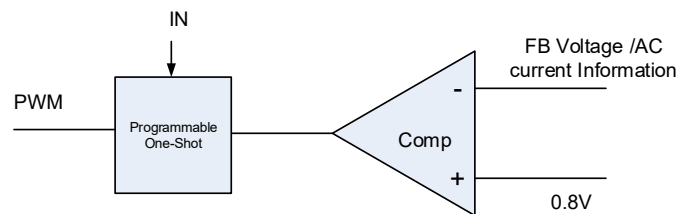

Figure 2. Simplified Control Schematic of AOZ2260BQI-20
The simplified control schematic is shown in Figure.2. The high-side switch on-time is determined solely by an one-shot whose pulse width is inversely proportional to input voltage (IN). The one-shot is triggered when the internal 0.8V is higher than the combined information of FB voltage and the AC current information of inductor, which is processed and obtained through the sensed low-side MOSFET current once it turns-on. The added AC current information can help the stability of constant-on time control even with pure ceramic output capacitors, which have very low ESR. The AC current information has no DC offset, which does not cause offset with output load change, which is fundamentally different from other V^2 constant-on time control schemes.